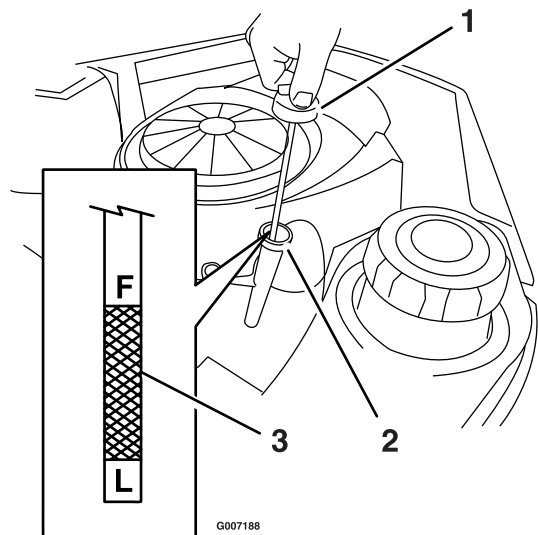
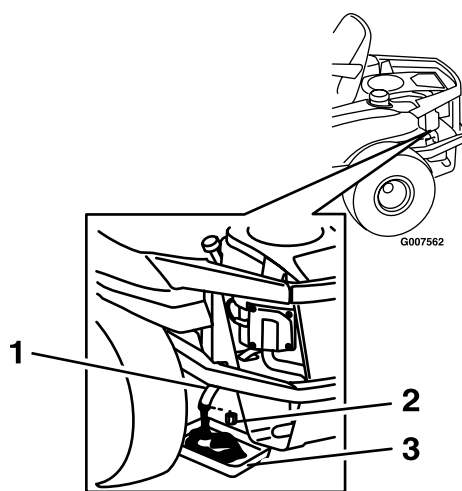

Figure 2
Figure 3
4. Pull and remove the oil fill cap/dipstick; wipe oil off. Reinsert the dipstick and push firmly into place (Figure 2).
5. Clean the area around the drain plug and on the machine frame. Place a pan underneath machine directly below the drain hole in the frame as shown in Figure 3
9. When the oil has drained completely, install the oil drain plug. Tighten the plug to 14 N-m (125 in-lb) torque. Wipe up any excess oil on the frame (Figure 3).
11. Install the replacement oil filter to the mounting pad. Turn the oil filter clockwise until the rubber gasket contacts the pad, then tighten the filter an additional 1/2 to 3/4 turn (Figure 3).
14. Check the oil level (Figure 2); refer to the Checking the Oil Level section.
6. Remove the oil drain plug (Figure 3). Remove the oil fill cap/dipstick (Figure 2).